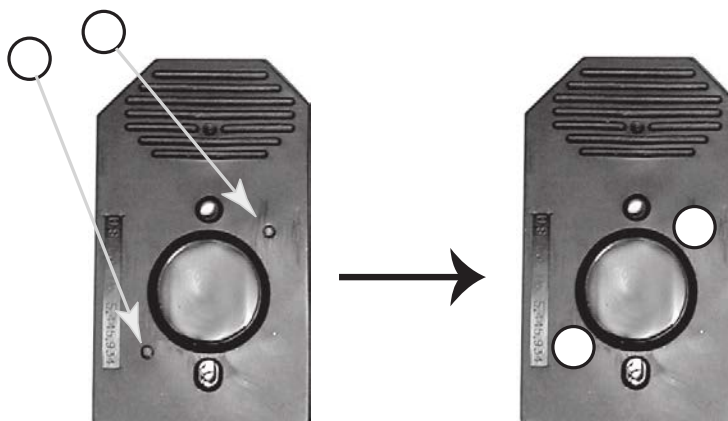

Figure 20 Applying Tough-Spots™ to arrays.
4. Carefully cover both septa with Tough-Spots™ (Figure 20).